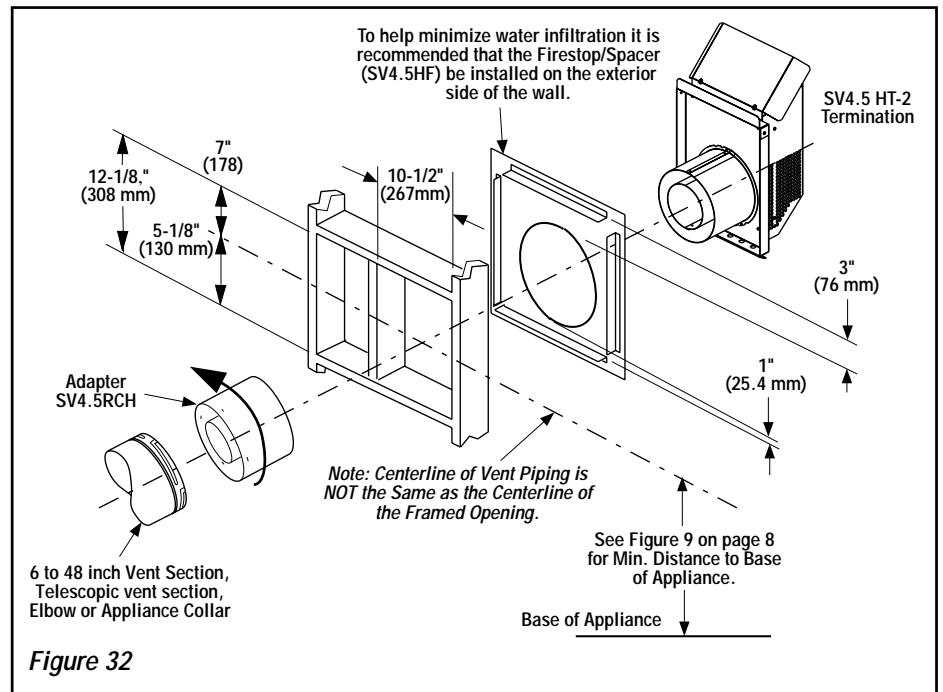

Figure 32
If the terminus of the last section is not within this distance, use the **telescopic vent section SV4.5LA**, as the last vent section. For wall thicknesses greater than that shown in **Figure 32**, refer to **Table 4 on page 18**. This table lists the additional venting components needed (in addition to the termination and adapter) for a particular range of wall thicknesses.
K. Attach termination adapter - Attach the adapter (adapter - SV4.5RCH - provided with the termination) to the vent section or telescoping vent section, elbow or appliance collar as shown in **Figure 32** in the same manner as any SV4.5 vent component (refer to **Step E**).
L. Install Firestop/Spacer at exterior wall - When using the **square termination**, install SV4.5HF (Secure Vent), SF4.5HF (Secure Flex) Firestop/Spacer over the opening at the exterior side of the framing, long side up, with the 3 inch spacer clearance at the top as shown in **Figure 32**, and nail into place.